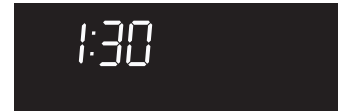

Fig.8
2. Once the oven has cooled down for approximately 1 HOUR and the "**DOOR LOCKED**" icon is no longer displayed, the oven door can then be opened (Fig. 8).